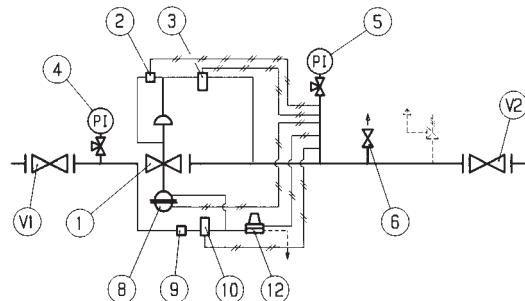

Fig. 25
5.5 MESSA IN SERVIZIO REGOLATORE APERFLUX 851 CON MONITOR INCORPORATO PM/819 E VALVOLA ACCELERATRICE (FIG. 25)
5.5 COMMISSIONING THE REGULATOR APERFLUX 851 WITH INCORPORATED PM/819 MONITOR AND ACCELERATING VALVE (FIG. 25)
5.5 INBETRIEBNAHME DES REGLERS APERFLUX 851 MIT INTEGRIERTEM MONITOR PM/819 UND SCHLIESSBE-SCHLEUNIGER (FIG. 25)
- 5.5 MISE EN SERVICE DU DÉTENDEUR APERFLUX 851 AVEC MONITOR INCORPORÉ PM/819 ET VANNE D'ACCÉLÉRATION (FIG. 25)
- 5.5 PUESTA EN SERVICIO DEL REGULADOR APERFLUX 851 CON MONITOR INCORPORADO PM/819 Y VÁLVULA ACCELERADORA (FIG. 25)
- 5.5 ACTIVAÇÃO DO REGULADOR APERFLUX 851 COM MONITOR INCORPORADO PM/819 E VÁLVULA ACCELERADORA (FIG. 25)